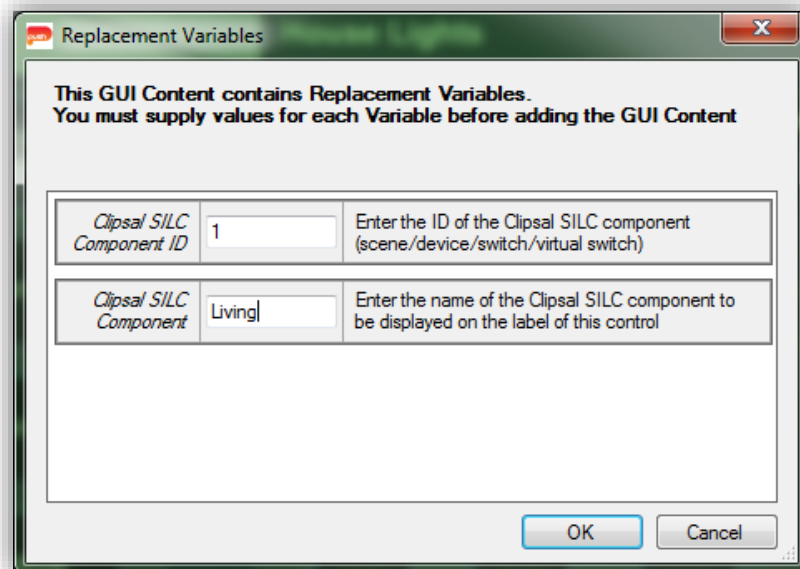

Figure 4 - GUI Content parameter dialog box
5. Once the mouse button is released a dialog box will open asking for parameters to be provided (Figure 4). In the case of the Switch-Dim-Horizontal element the following data is required:
- Once the mouse button is released a dialog box will open asking for a parameter to be provided (Figure 4). In the case of the ZonePanel_L element the following data is required: